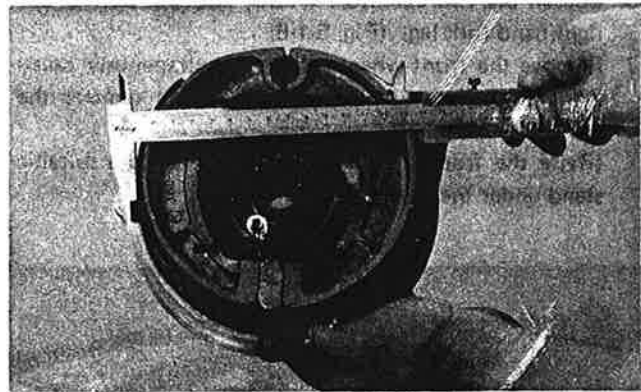

Fig. 5-1-8
1. Measure the outside diameter at the brake shoes with slide calipers. (Fig. 5-1-8)